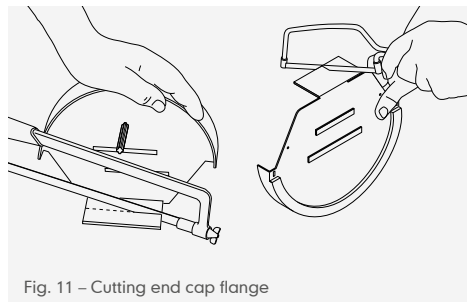
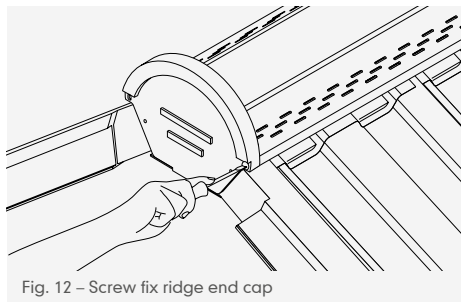

Fig. 11 – Cutting end cap flange
Fig. 12 – Screw fix ridge end cap
- 12 If required, trim flange of ridge and cap to fit between top course verge units (Fig. 11, page 152). Screw ridge end cap to end of dry ridge batten by locating 30mm stainless steel screws into end of circular beads on upper flange (Fig. 12, page 152).
- 13 Screw ridge end cap through top course verge unit, to end of top course tiling batten. Locate 30mm stainless steel screw (provided) through lower, partly formed fixing holes (Fig. 12).
- 14 If required, trim flange of ridge end cap to fit between top course verge units. (Fig. 11). Top course verge unit is secured to end of top course tiling batten in normal manner.